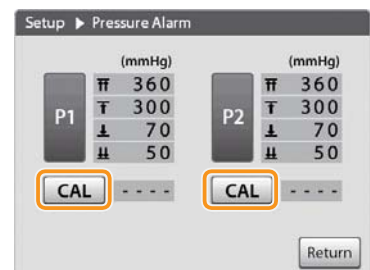

Figure 1-49
3. Tap [CAL] of the pressure sensor (P1 or P2) to which you want to perform calibration. (Figure 1-49)